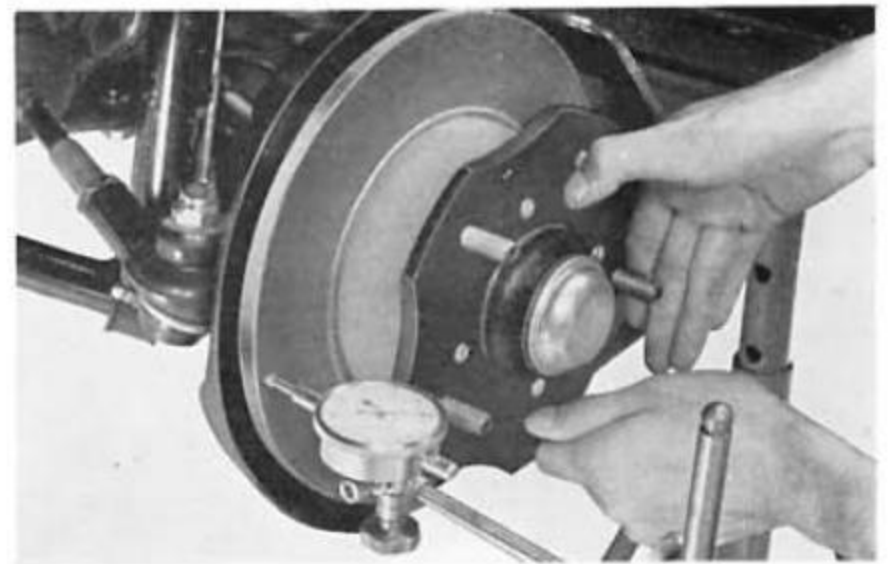

Fig. 12E-7
5. With the disc installed on the knuckle spindle, install disc brake on the brake installation seat of the knuckle spindle (Fig. 12E-8).